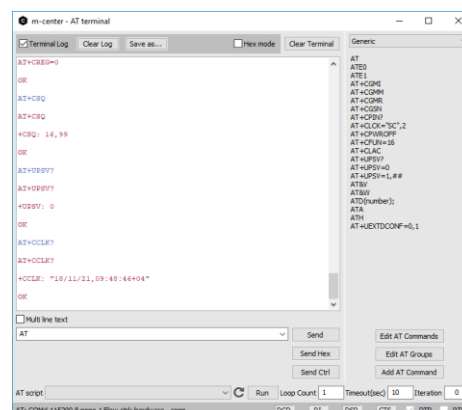

Figure 9: AT terminal window
7. Click **AT Terminal** at the upper right of the **Home** page. A new window opens and the AT command terminal is now ready for communication with the EVK-R4, as shown in Figure 9